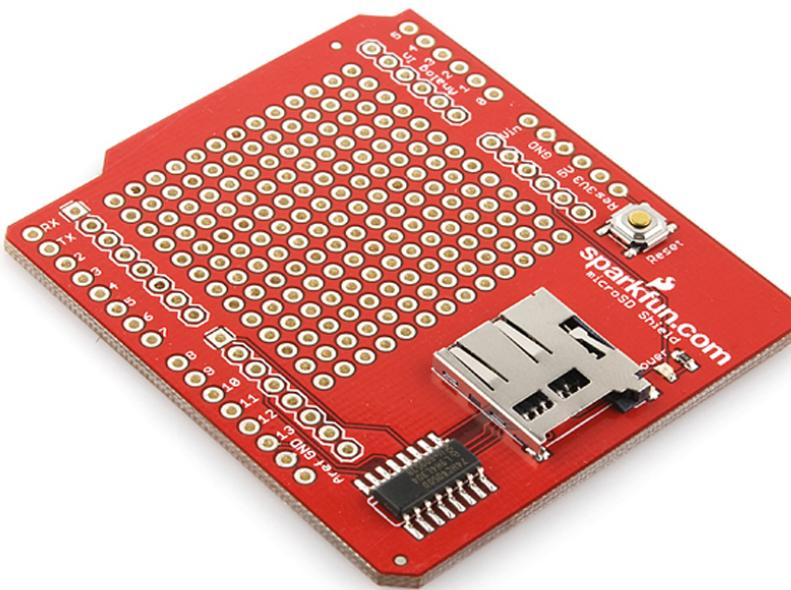

Figure 13-12: SparkFun MicroSD shield
- **SparkFun MicroSD shield** (www.exploringarduino.com/parts/sparkfun-microSD-shield): This shield is, like the Cooking Hacks shield, is a minimalist shield that only has an SD card slot. However, it also has a prototyping area to allow you to solder on additional components. It connects the SD card's CS pin to pin 8 on the Arduino, so you must specify this when using the SD card library with this shield (see Figure 13-12).